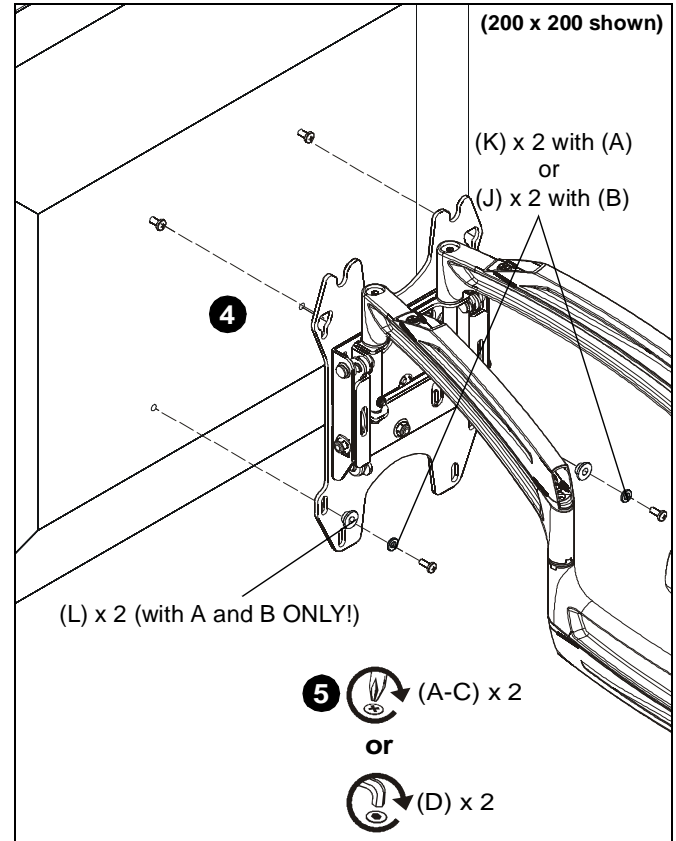

Figure 20
4. Hang display by two screws onto faceplate through either inner or outer teardrop mounting holes. (200x200 mounting pattern shown) (See Figure 20)
5. Secure display to faceplate by installing two selected screws (A-D) through washer hardware (J,K, and L) for M4 (A) and M5 (B) screws only, lower holes on faceplate and into lower two holes on display. (See Figure 20)